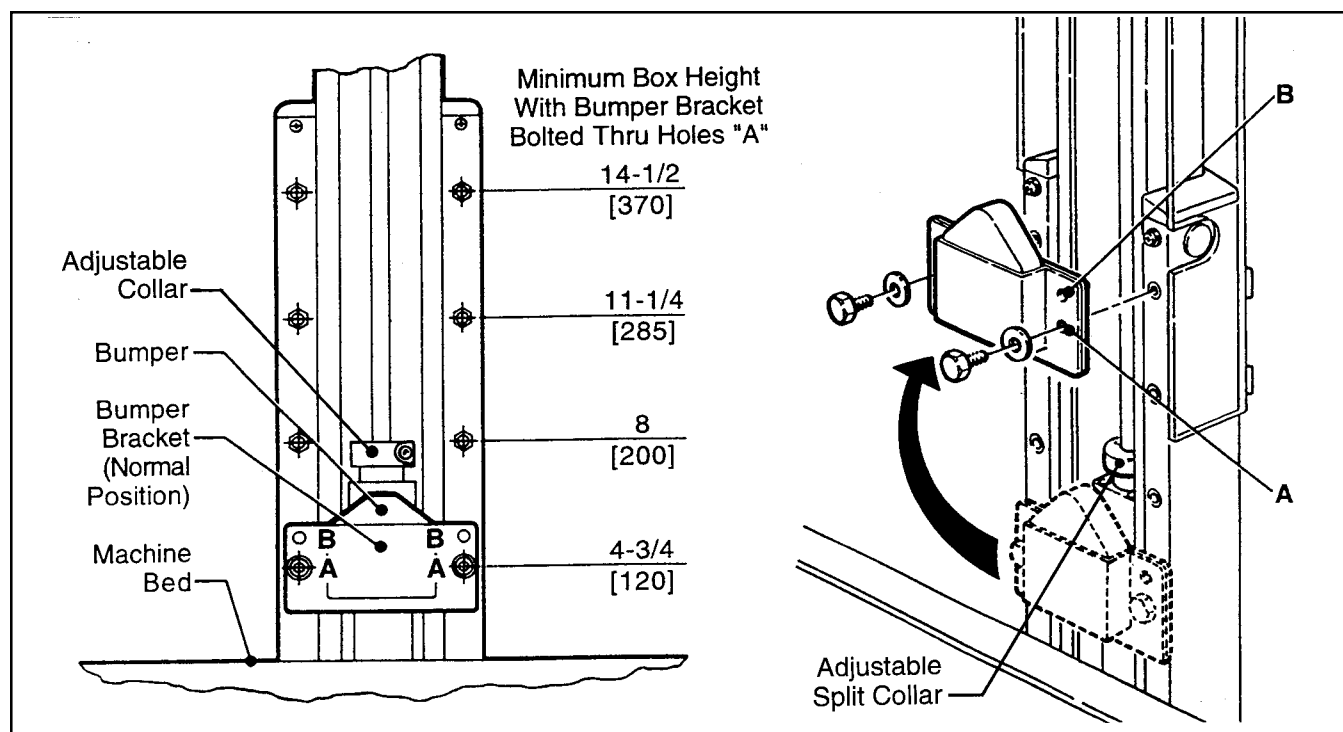

Figure 6-5 – Stop Bumpers
Box Height Range – (Refer to Figure 6-5)
The illustration in Figure 6-5 shows minimum box height with stop bumpers fastened through lower holes (A) at different levels on the side columns. If bumpers are mounted with bolts through upper holes (B), the minimum height of box in each position **decreases** by 20 mm [3/4 inch].
In addition to the bumper supports, adjustable split collars are fitted onto the cylinder rods as shown in Figure 6-5. These can be used to stop the down position of the upper assembly at any position. To adjust these collars, position the smallest box to be sealed under the drive belts and stop the machine. Slide the collars on both cylinders down to the cylinder cap and tighten. Upper drive assembly will now stop at this position.